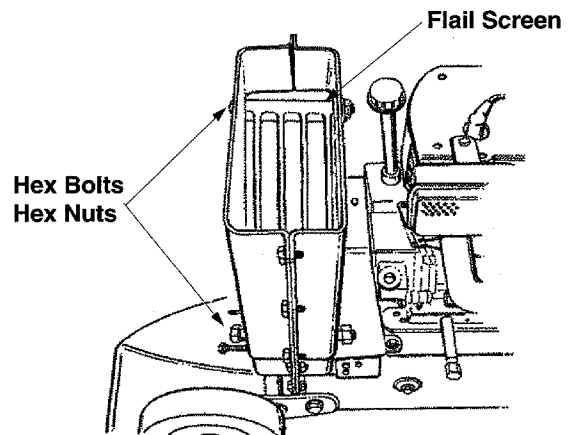

Figure 13
4. Remove the two hex bolts and hex nuts which extend through the housing. Lift the flail screen from inside the housing. See Figure 13.
**NOTE:** Be certain to reassemble the flail screen with the curved side down as shown in Figure 13.
11. Remove the two hex bolts and hex lock nuts which extend through the housing. Lift the flail screen out of the housing. See Figure 13.